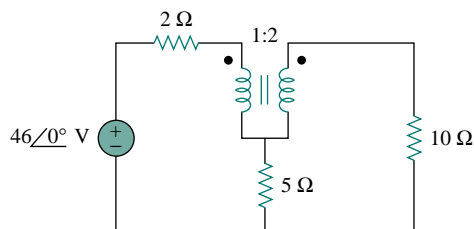

Figure 13.107 For Prob. 13.40.
- 13.40** Find the power absorbed by the 10-Ω resistor in the ideal transformer circuit of Fig. 13.107.